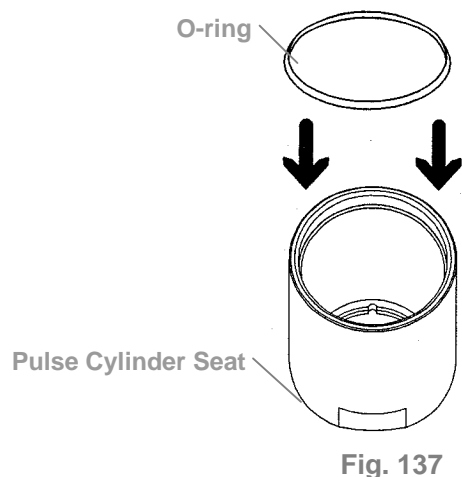
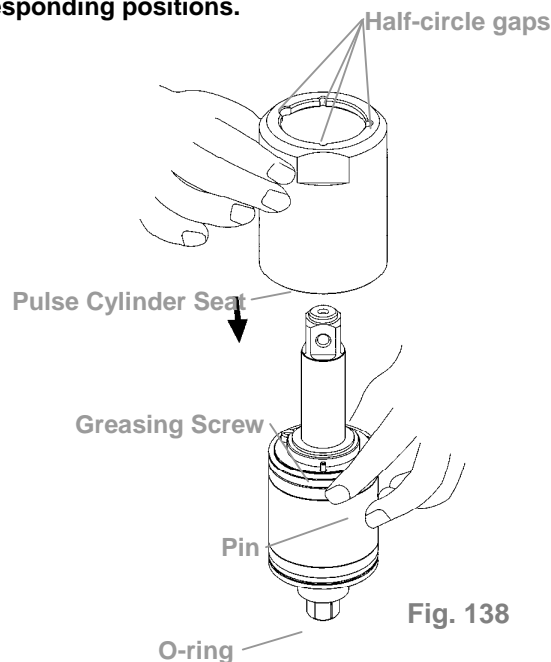

Fig. 137
Fig. 138
(4) Pulse Cylinder Seat and Lock Nut of Pulse Cylinder Assembly
- ① Place the o-ring inside the bottom of the pulse cylinder seat, then combine the pulse cylinder seat with the assembled pulse cylinder unit. (Fig. 137, Fig. 138)